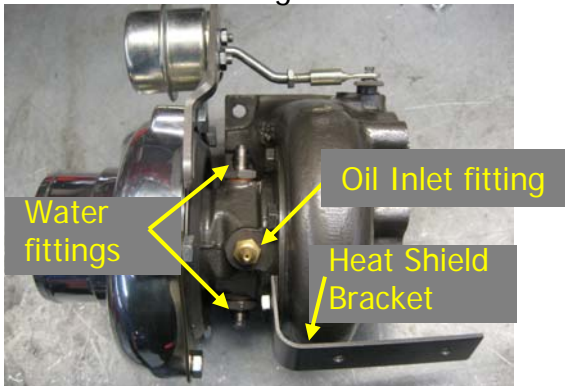

Fig.7
- a. Prepare the turbos for installation – install the oil inlet fitting, the oil drain fitting, water inlet fitting, heat shield bracket and the down pipe prior to installing the turbocharger (Figure 7):